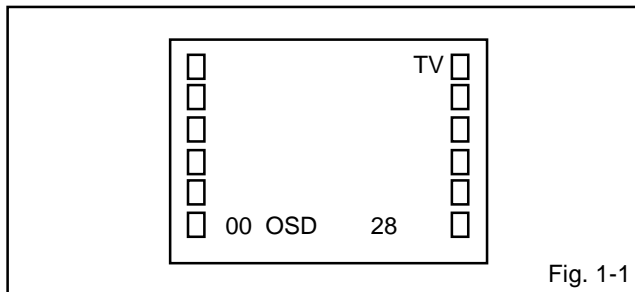

Fig. 1-1
1. In the condition of NO indication on the screen. Press the VOL. DOWN button on the set and the Channel button (9) on the remote control for more than 2 seconds to appear the adjustment mode on the screen as shown in Fig. 1-1.
4. Activate the adjustment mode display of Fig. 1-1 and press the channel button (01) on the remote control to select "CUT OFF".
4. Activate the adjustment mode display of Fig. 1-1 and press the channel button (12) on the remote control to select "R. BIAS".
10. If the picture is too much green. Activate the adjustment mode display of Fig. 1-1 and press the channel button (28) on the remote control to select "CB PED".
12. If the picture is too much red. Activate the adjustment mode display of Fig. 1-1 and press the channel button (29) on the remote control to select "CR PED".
4. Activate the adjustment mode display of **Fig. 1-1** and press the channel button (**22**) on the remote control to select "COLOR CENT".
4. Activate the adjustment mode display of **Fig. 1-1** and press the channel button (**24**) on the remote control to select "TINT".
3. Activate the adjustment mode display of **Fig. 1-1** and press the channel button (**07**) on the remote control to select "V. SIZE".
3. Activate the adjustment mode display of **Fig. 1-1** and press the channel button **(08)** on the remote control to select "V. LINEARITY".